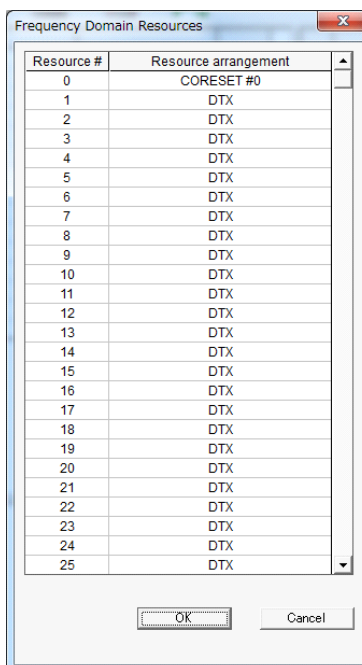

Figure 3.2.1.1-1 RB arrangement
9. Double-click **RB arrangement** of **Slot #0** in the tree view and set CORESET #0 to Resource #0 as in Figure 3.2.1.1-1.